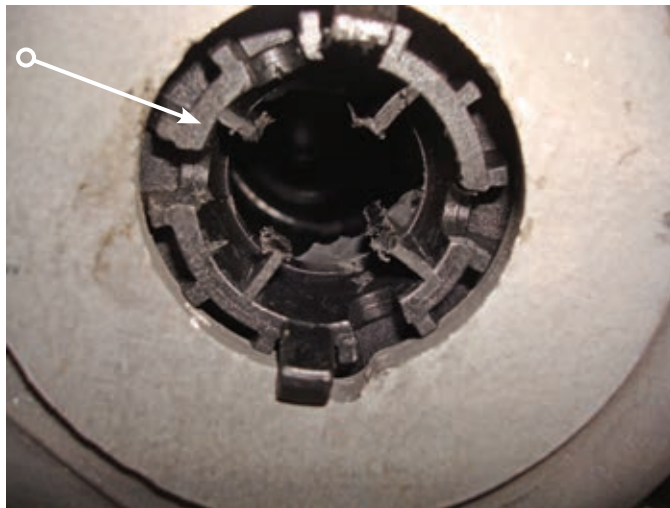

fig. 4
5. To do this you can use a hack saw blade (or anything comparable) and cut each rib out creating access in the center of the lower spring seat, to the cylinder that will be installed (fig. 4). Try to smooth any sharp edges with a rat tail file or Dremel tool.